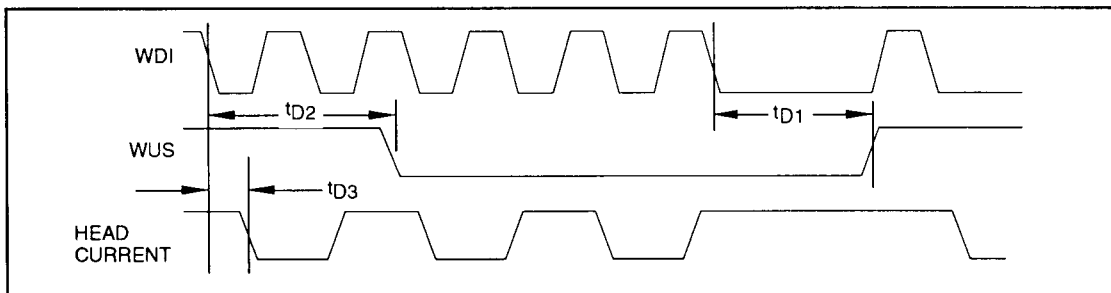

Figure 1: Write Mode Timing Diagram
**SWITCHING CHARACTERISTICS** Recommended operating conditions apply unless otherwise specified;  $I_W = 20mA$ ,  $f_{DATA} = 5MHz$ ,  $L_H = 1\mu H$ ,  $R_H = 30\Omega$ ,  $C_L$  (RDX, RDY)  $\leq 20pF$  (see figure 1).